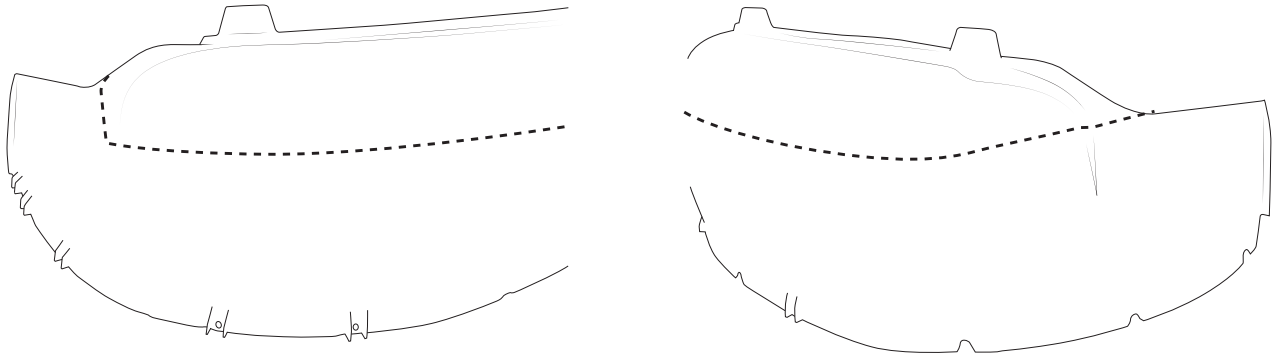

Figure 25
- A. Mark wheel liner and cut using an air saw or utility knife. DO NOT cut too much, you can trim excess after the hole locations are marked (fig. 25).